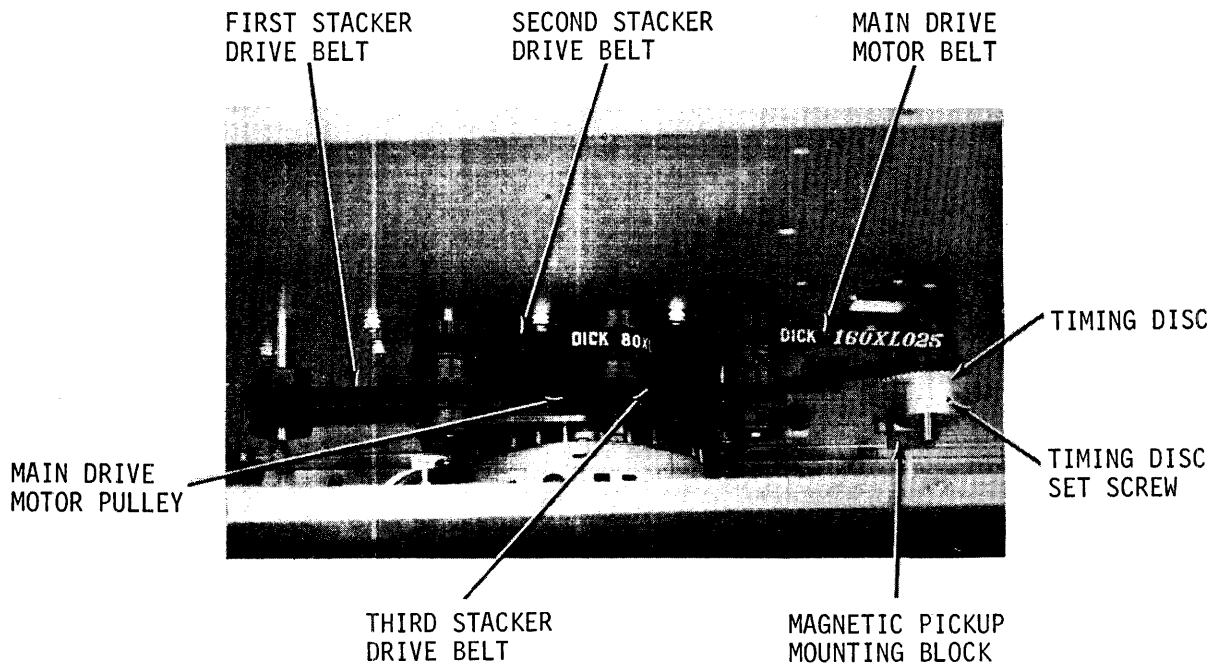

Figure 9-4. Stacker Drive Train Belt Arrangement
- c. Using a 5/64 Allen wrench, LOOSEN set screw in timing disc, figure 9-4. Remove timing disc.
- h. Remove main drive motor belt, figure 9-4.